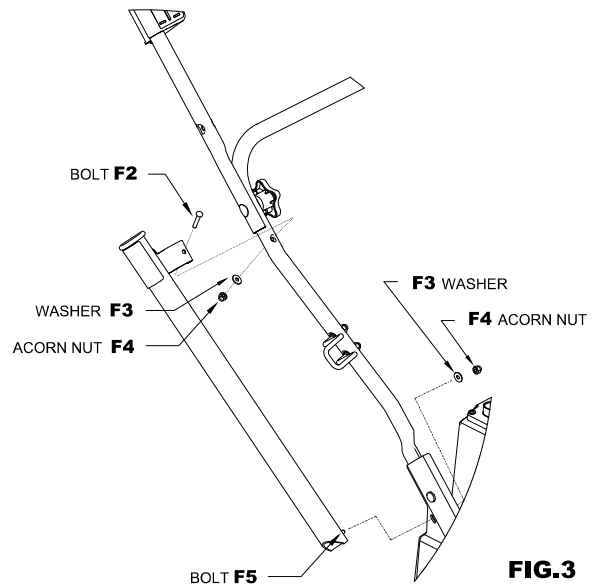

FIG.3
7) Mount wand holster to handle on operator's right as shown in FIG. 3